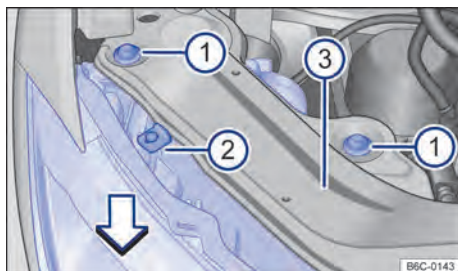

Fig. 165 In the engine compartment: fastening bolts of the headlights
- Remove the fastening bolts → Fig. 165 ⓘ with a torx wrench.
- Move the headlight forward, in the direction indicated by the arrow → Fig. 165 until the two retainers on the underside disengage and enable the removal of the headlight.
- Carefully reinsert the headlight until the two retainers on the underside engage and the upper stopper → Fig. 165 ⓘ touches the headlight support ⓘ.